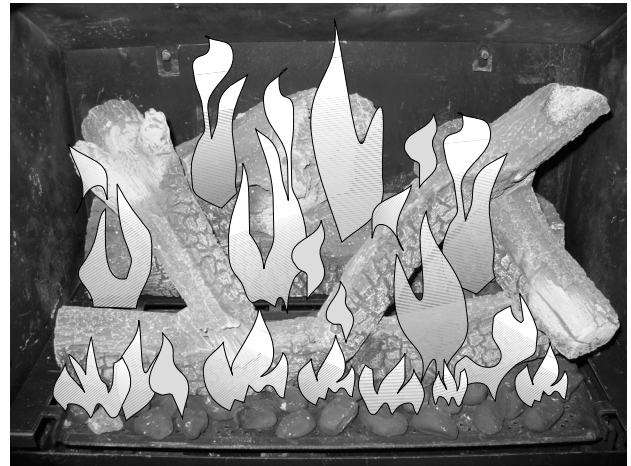

Figure 43. Normal flame picture.
3. **MANUAL BURNER ADJUSTMENT:** This stove is equipped with a variable gas control valve that allows manual adjustment of the flame height and heat output. To adjust the flame intensity, rotate the regulator knob. Flame height will adjust approximately 50% between the LOW and HIGH settings. See fig. 43, page 24.